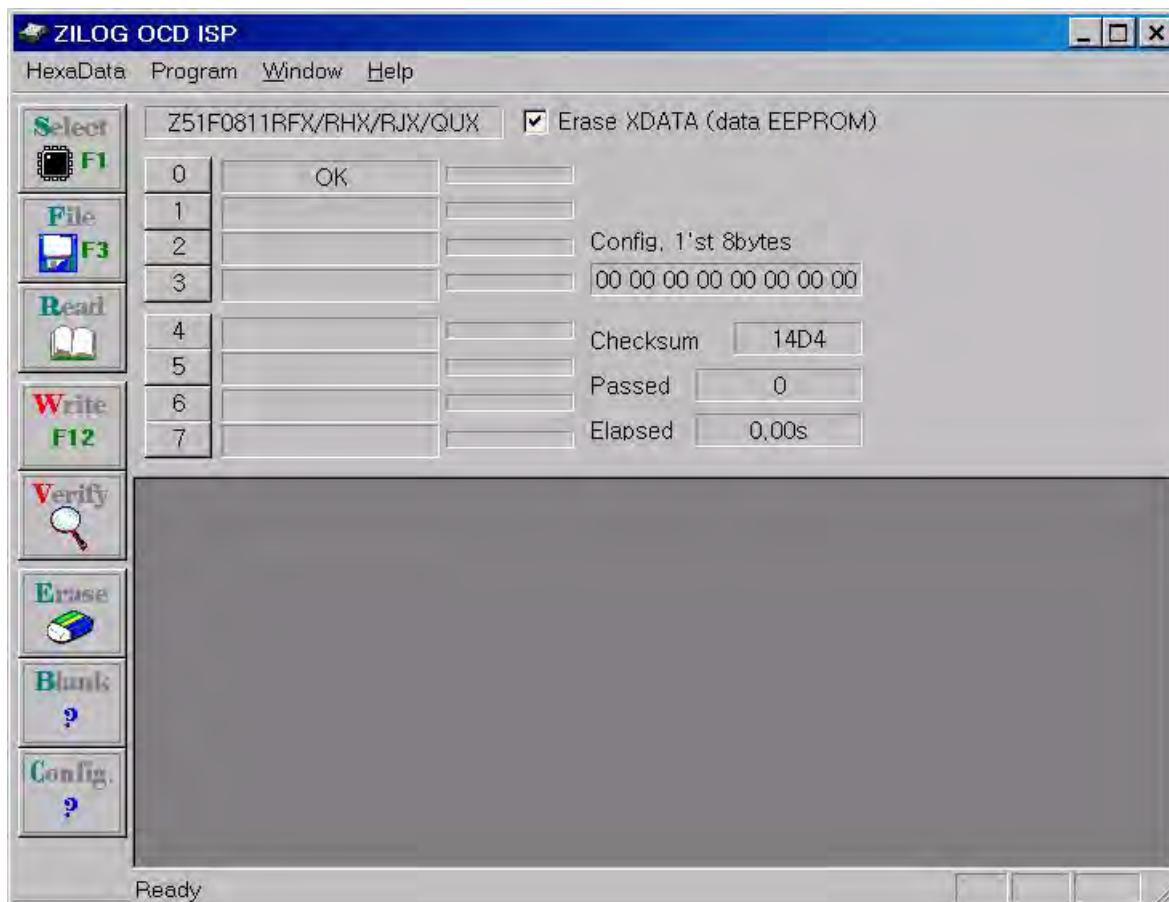

Figure 77. OCD ISP Dialog
3. The OCD\_ISP dialog box appears, as shown in Figure 77. After a hexadecimal file has been loaded, this dialog displays the name of the target device and a data checksum value, as highlighted in the figure.